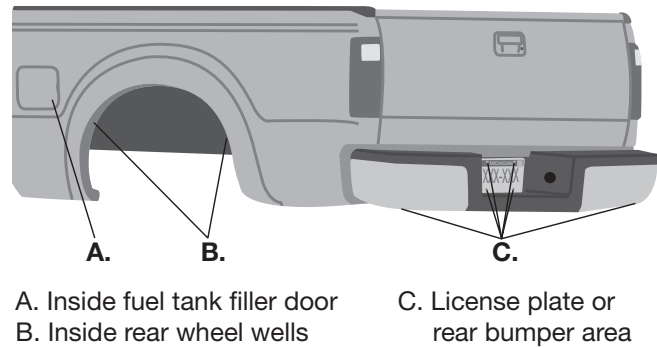

Fig. 24
1. Choose the locations for the Schrader valves and drill a 5/16" (8mm) hole, if necessary (Fig. 24).